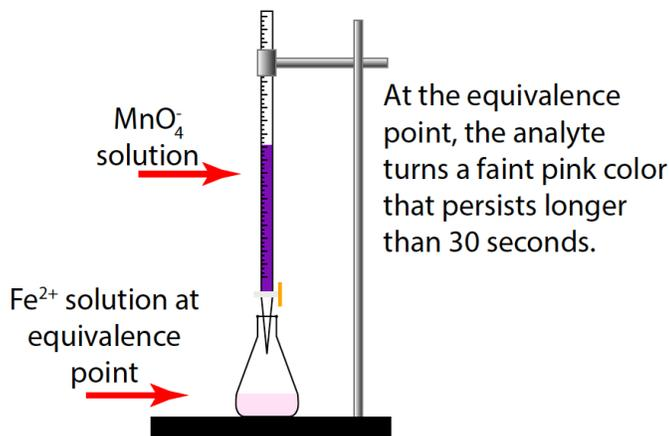

Figure 1. Diagram of the titration assembly. The MnO_4^- solution is quantitatively added from a buret to the Fe^{2+} solution in an Erlenmeyer flask.
You performed titrations last week in the laboratory to determine the relationship between conductivity and concentration in aqueous solutions. This week you will use another type of titration to explore the stoichiometry of the reaction of potassium permanganate (KMnO_4) with iron (II). In this titration, you will quantitatively add a potassium permanganate solution (**the titrant**) to an iron (II) solution (**the analyte**), but instead of monitoring the reaction throughout the titration, you will only need to measure the volume added to get to the end point (*very close to the **equivalence point***). You will be able to visually determine this end point from a faint but persistent pink color due to the presence of a trace amount ($< 2 \times 10^{-6} \text{ M MnO}_4^-$) of unreacted permanganate (Figure 1). *Your titration will allow you to determine the stoichiometry of the reaction, and from that stoichiometry you will be able to determine the identities of the reaction products and the specific redox reaction (out of 4 possibilities) that has taken place.*